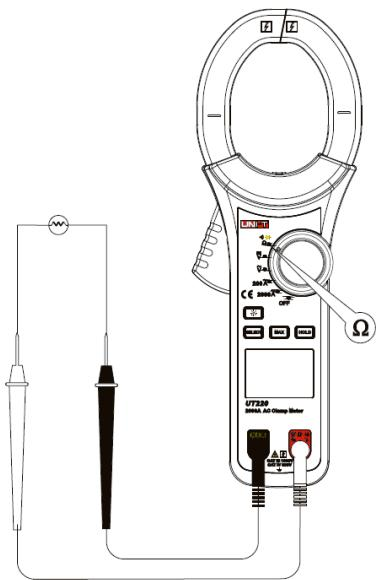

Figura 5
3. MEDIDA DE RESISTÊNCIA (Ω) (VER FIGURA 5)